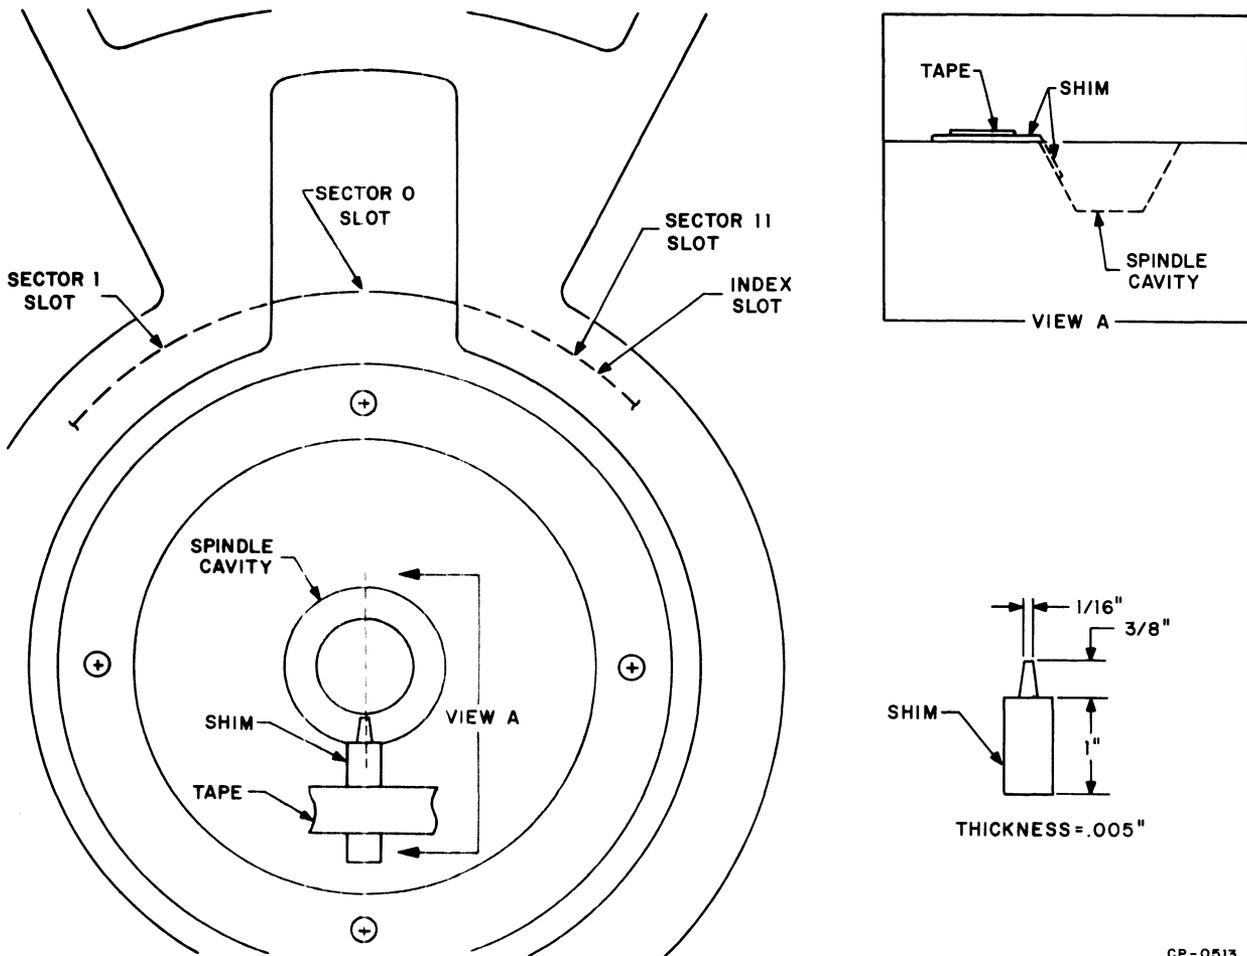

Figure 5-14 CE Test Cartridge Shim Installation
5.4.1.2 2315 CE Test Cartridge Shim Installation - (To be used *only* when an RK05-AC alignment cartridge is not available.) Before a 2315 test cartridge can be used for any RK05 alignment procedure, a 0.005-inch shim must be installed in the disk hub. Because the 2315 cartridge is recorded at low density and the RK05 uses a high-density cartridge, this shim is required to accentuate the wobble of the low-density cartridge and allow it to be used for high-density alignments. To install the shim properly, trim a piece of 0.005-inch shim stock, as indicated in Figure 5-14, and attach it to the disk hub as follows: